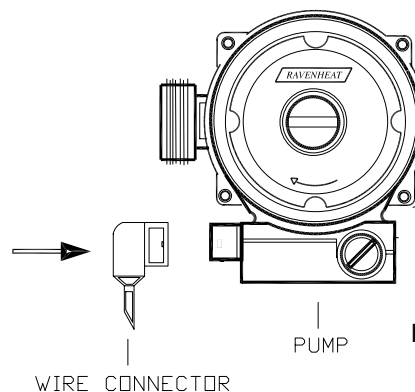

Fig. 56
**7.22 TO REMOVE/REPLACE PUMP (fig. 56).**